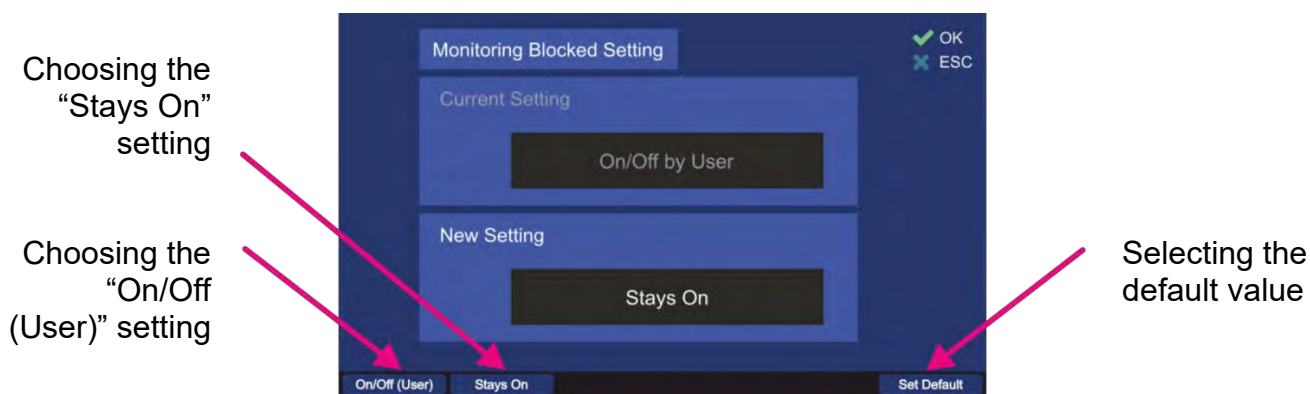

Fig. 123 Monitoring handling settings
There are two possible settings in this menu (s. Fig. 123).
- Choose the new setting using one of the hotkeys (s. Fig. 123), which will then appear in the “New Setting” field.